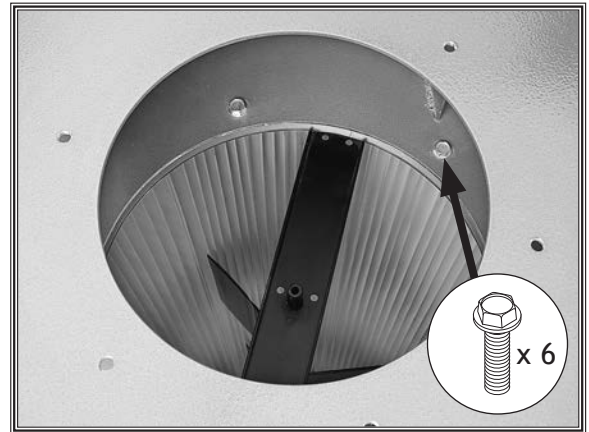

Figure 23. Canister filter attached to impeller housing.
25. While assistant holds canister filter under impeller housing, reach into impeller housing and attach canister filter to impeller housing with (6) $\frac{5}{16}$ "-18 x $\frac{1}{2}$ " flange bolts (see **Figure 23**).